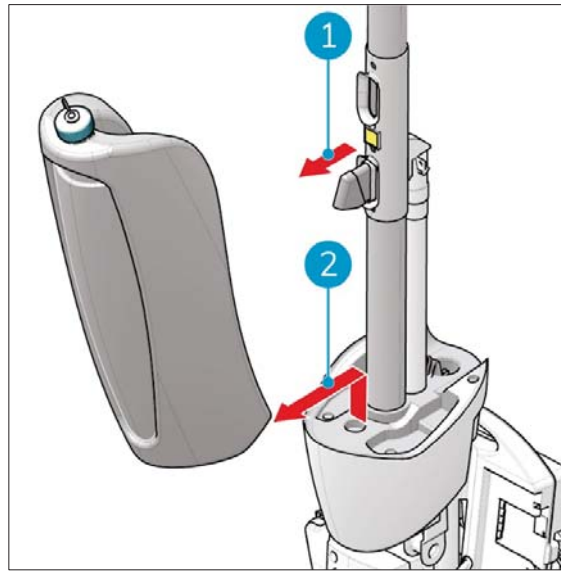

Figure 28
1. Pull the top of the recovery tank outwards (Figure 28, pos 1).